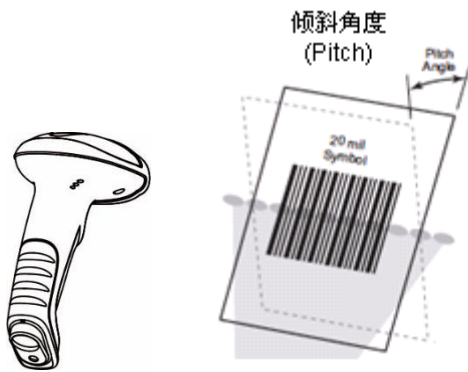

Fig. 1-12
- ◇ Pitch : $\pm 55^\circ$, 0° Roll and 0° Skew (Fig. 1-12)